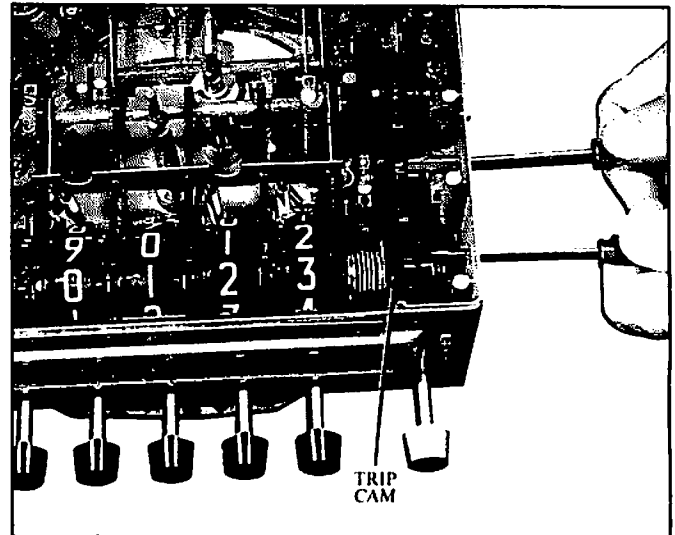

Figure 3. Trimming the Right-Hand Wheel.
1. Remove the lockwired plate covering the trim holes on the right side of the Preset. Older models have trim hole plugs. Insert one small screwdriver blade in each of the two trim holes (Figure 3).